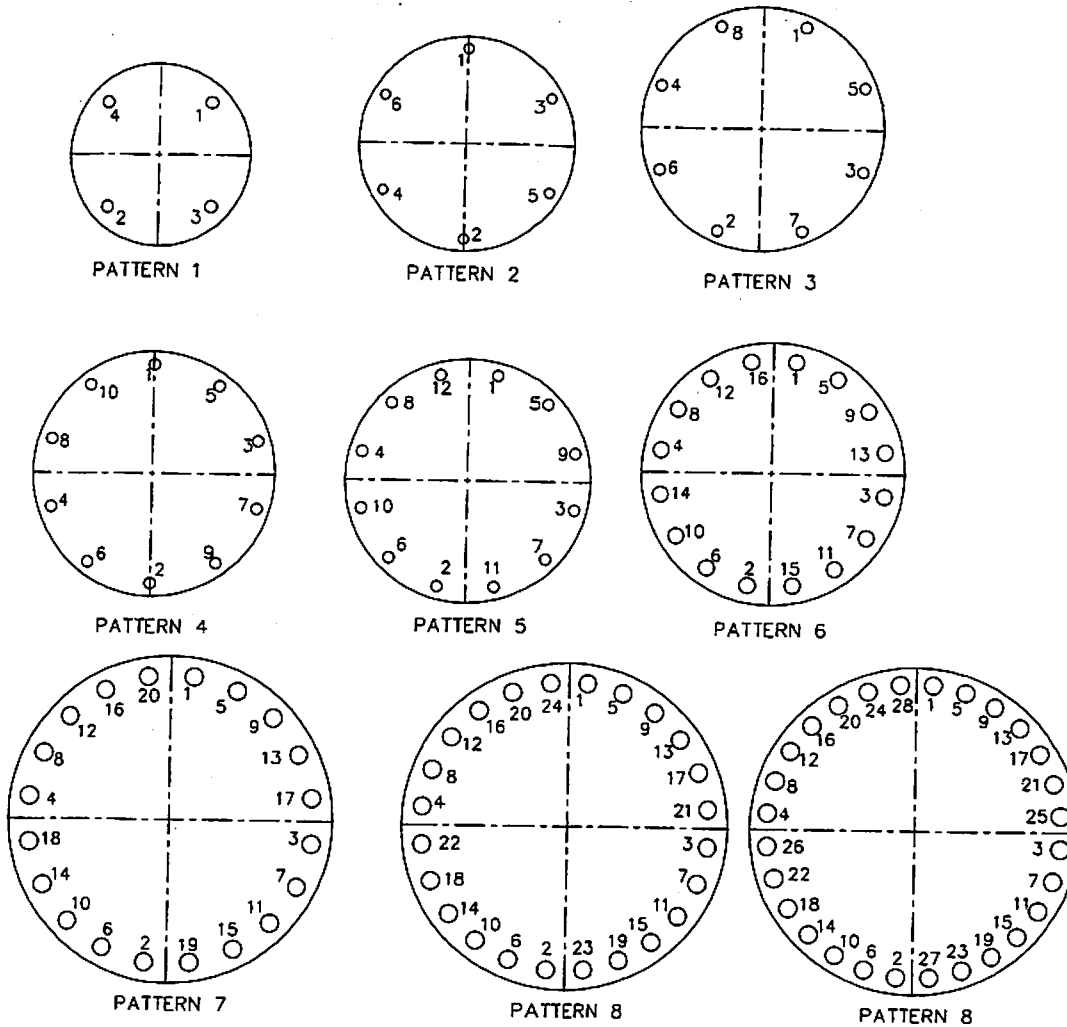

Figure 1
- Tighten the nuts to the values shown in table 5 following the designated sequence, repeating the sequence as shown. Flange pattern tightening sequences are shown in figure 1.